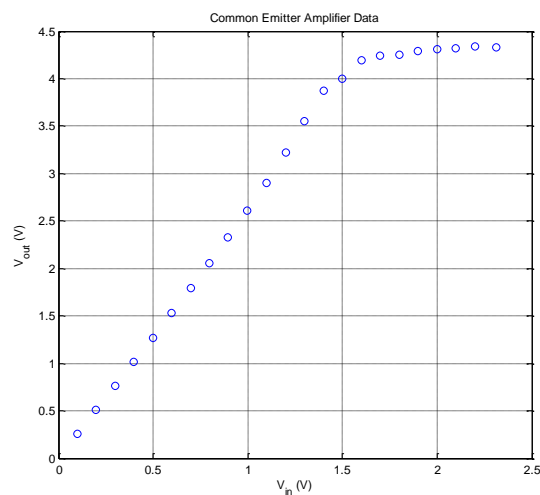

Figure 5: Emitter measured input/output data.
- d. Plot the output versus the input amplitudes by typing **plot(Vin, Vout, 'o')**. Make sure the graph has a grid, descriptive title and axis labels with units. Use the commands **grid**, **title()**, **xlabel()**, **ylabel()**, in order to do this. You should type **help** and the function name in the MATLAB command window if you are not sure how to do this. Your plot should be similar to Figure 5.